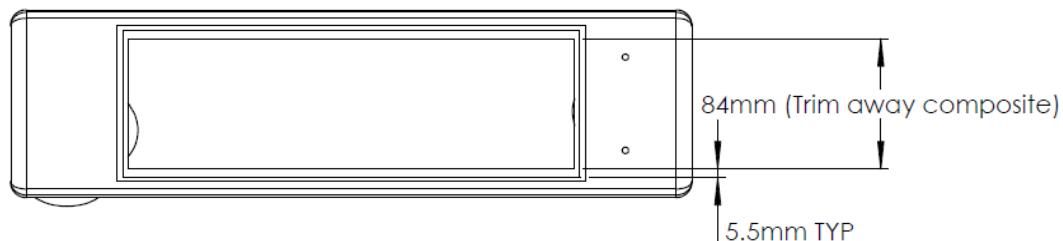

Figure 2: Trimming requirements of housing
3. Remove the four (4) rivets that attach the airbox bracket to the filter housing by drilling the rivet heads off and punching the stems out with the 4 mm pin punch.
4. Trim the rectangular opening of the housing where the filter is fitted with the abrasive tool to dimensions specified in Figure 2. The dimensions indicated in Figure 2 are in **millimetres**.